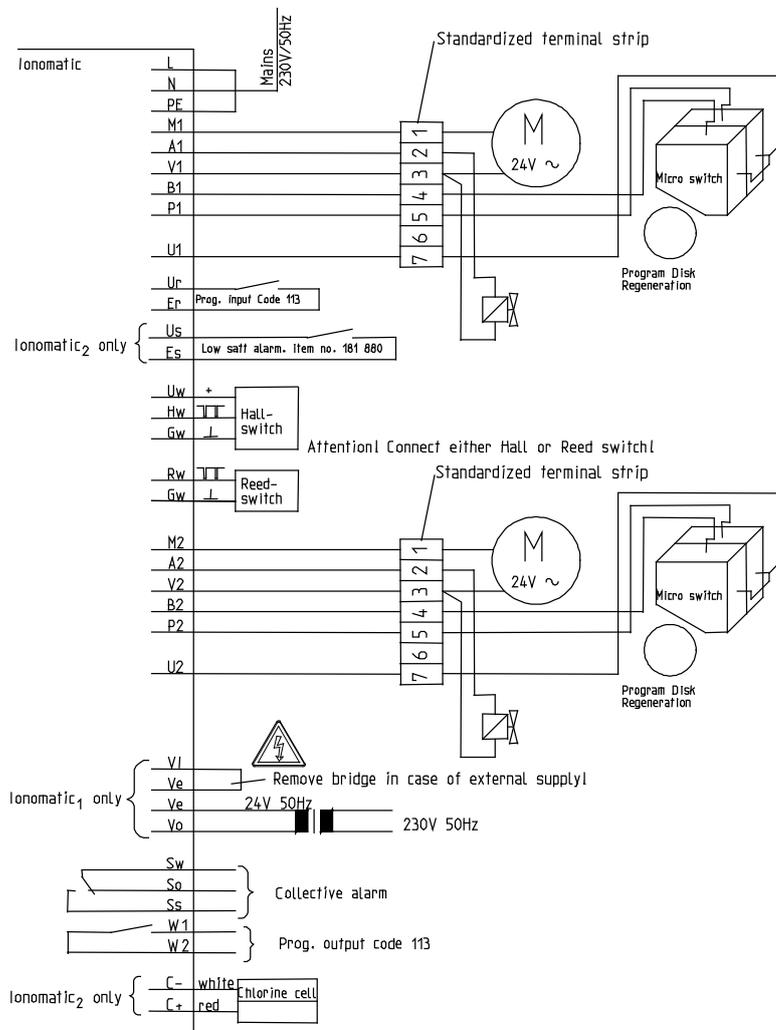
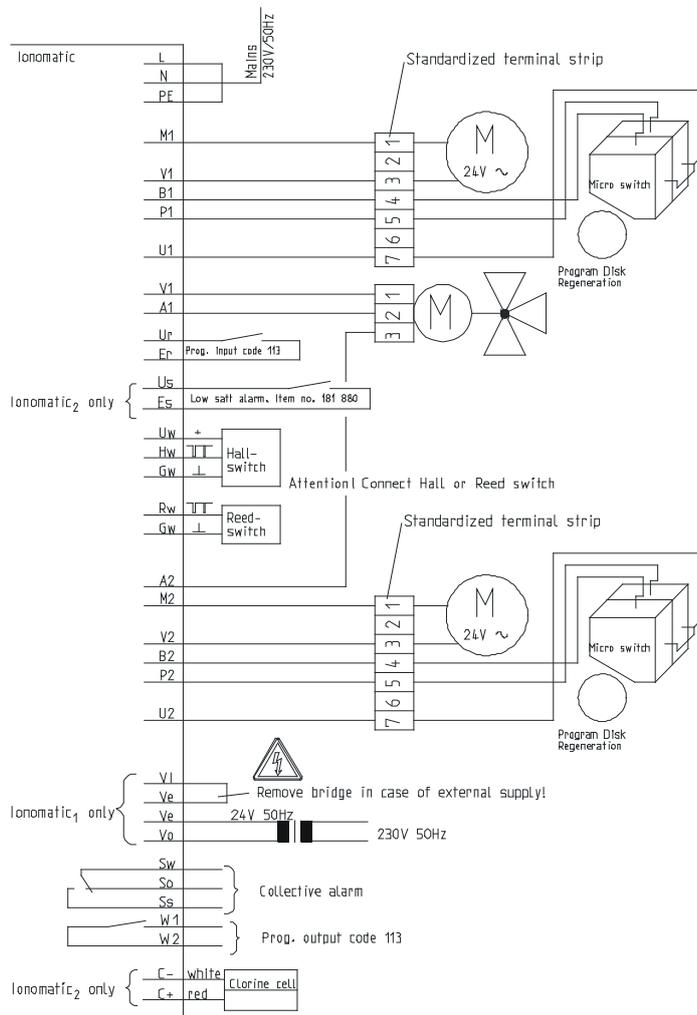
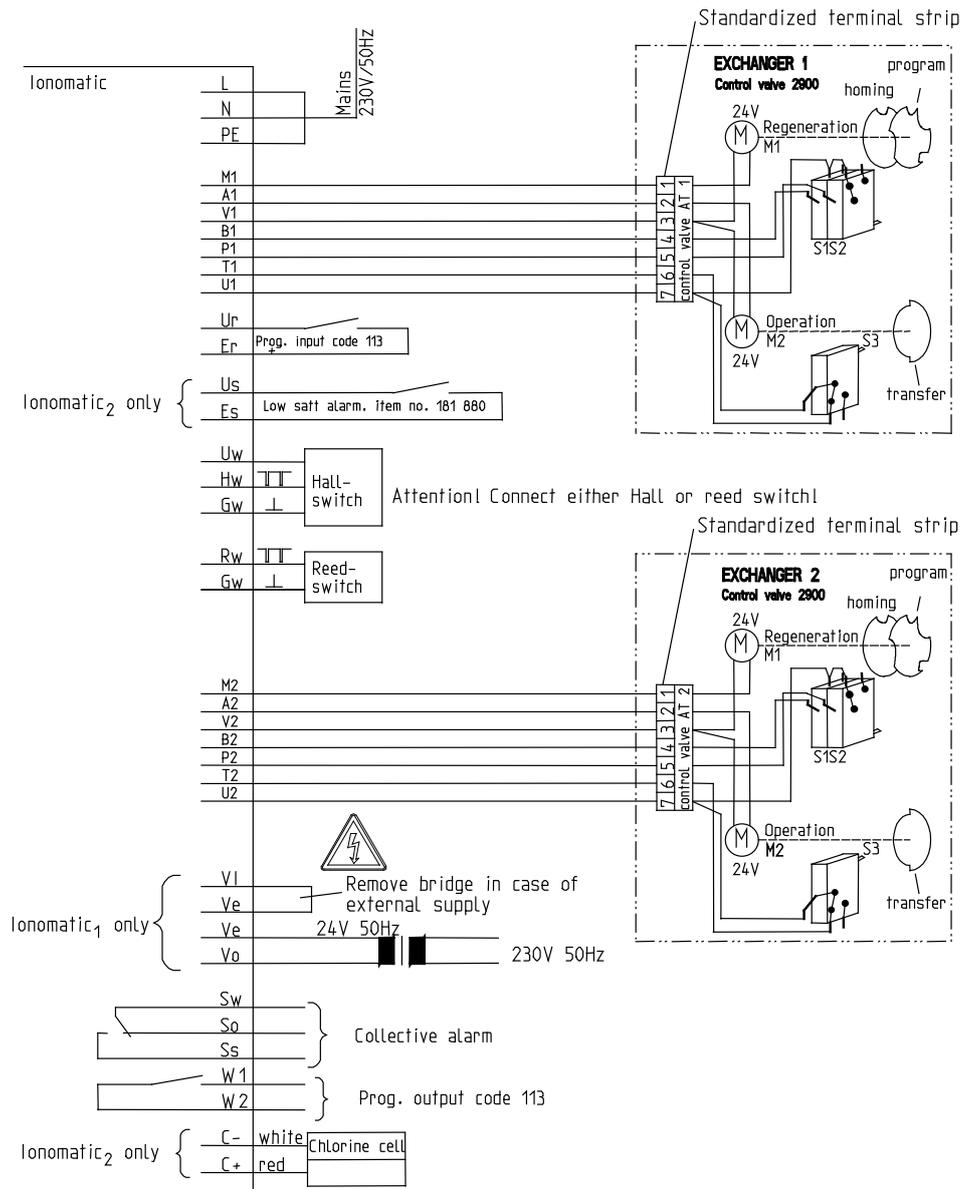

Fig. D-7: Terminal plan for small systems (nominal connection widths 3/4" and 1")
Fig. D-9: Terminal plan for medium-sized systems (nominal connection width 1½")
Fig. D-10: Terminal plan for large systems (nominal connection width 2“)
The control electronics must be fastened to the system by means of the mounting kit supplied with the system (for reference see fig. D-6 (b) for small systems, fig. D-2 for medium-sized and large systems) and must be connected according to the terminal plans shown in fig. D-7, fig. D-9 resp. fig. D-10.
2. Route 7-wire cable between control valves and control electronics and connect according to terminal plan (fig. D-7).
Connect the coupler sockets to solenoid valves, lead the cables to the control valves and connect them according to terminal plan (fig. D-7).
6. Connect the water meter according to terminal plan (fig. D-7).
2. Route 7-wire cable between control valves and control electronics and connect according to terminal plan (fig. D-9).
3. Route 3-wire cable between control electronics and actuator and connect according to terminal plan (fig. D-9).
6. Connect the water counter according to terminal plan (fig. D-9).
3. Connect according to terminal plan (fig. D-10).
5. Connect water meter according to terminal plan (fig. D-10).